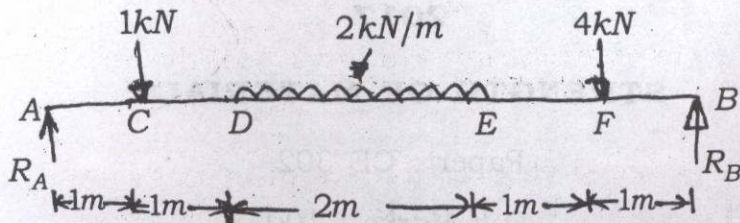

Fig.02
- (b) Draw the shear force and bending moment diagrams for the S.S.B. shown as in Fig.02. Show all the calculations.